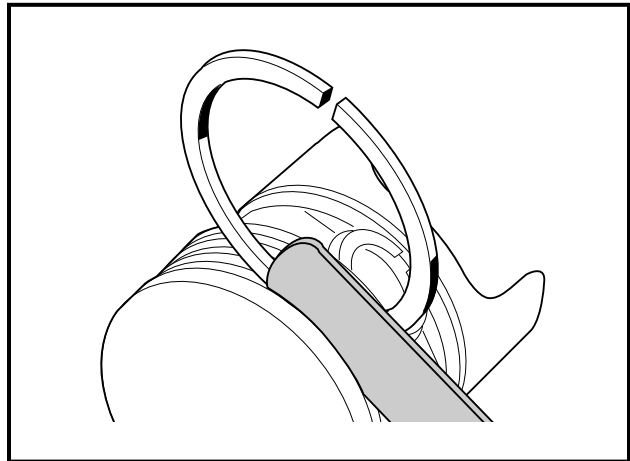

Figure 3-45 Measure Piston Ring Clearance
5. Use a new piston ring and feeler gauge to measure the clearance between the grooves and ring at several points around the grooves (**Figure 3-45, Page 3-24**).